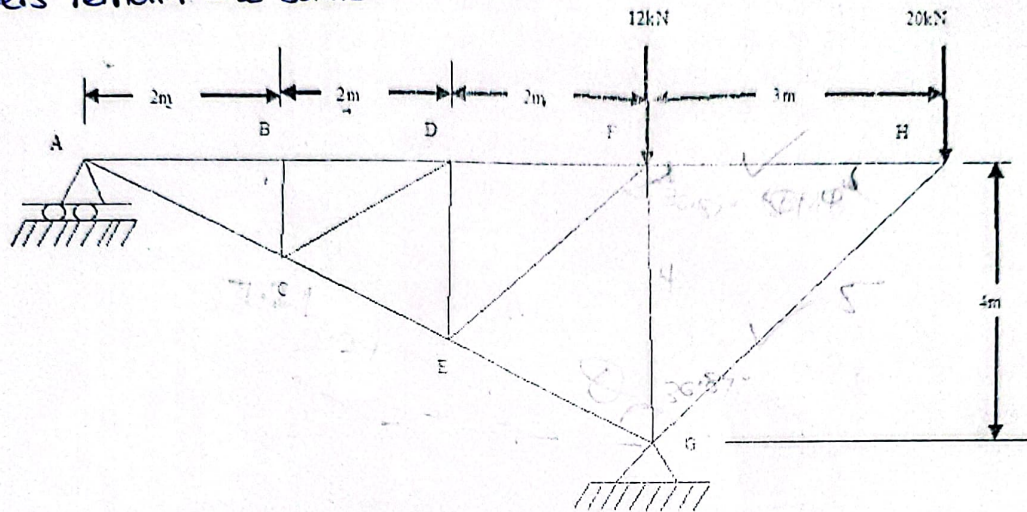

Fig. Q. 3
3. Find the forces in all the members of the truss shown in Fig. Q. 3 using the method of joints.